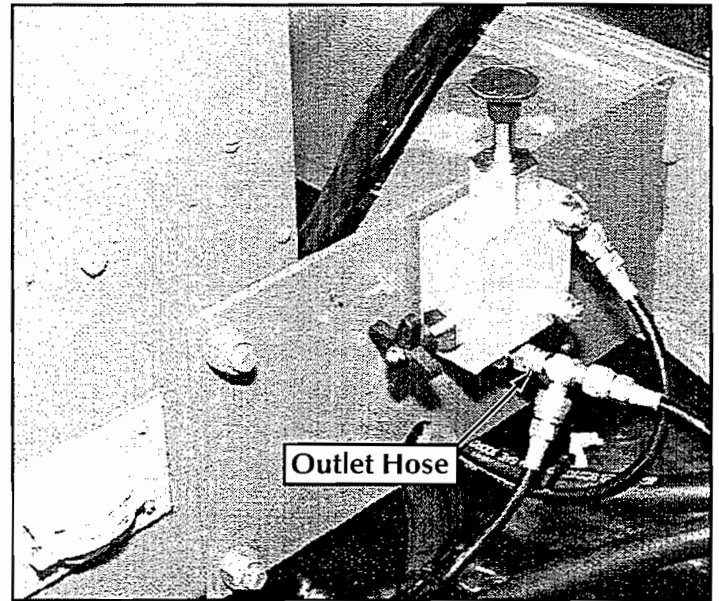

Figure 4-6: Brake Release Pump
2. Remove the outlet hose from the bottom of the Brake Release Pump (Figure 4-6) and install a 0-600 psi (0-41 bar) gauge assembly in-line with a tee fitting.